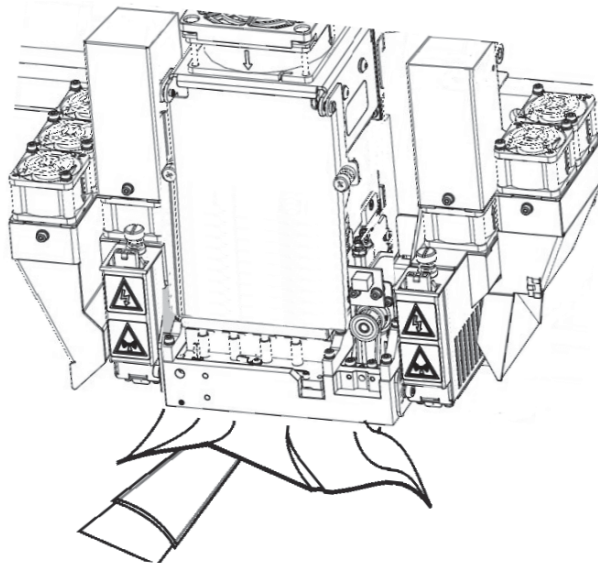

Figure 6-20: Cleaning the heads
9. Clean the orifice plates, with a back-and-forth motion (see figure 6-20). Use the mirror to make sure that you have removed all of the residue material.